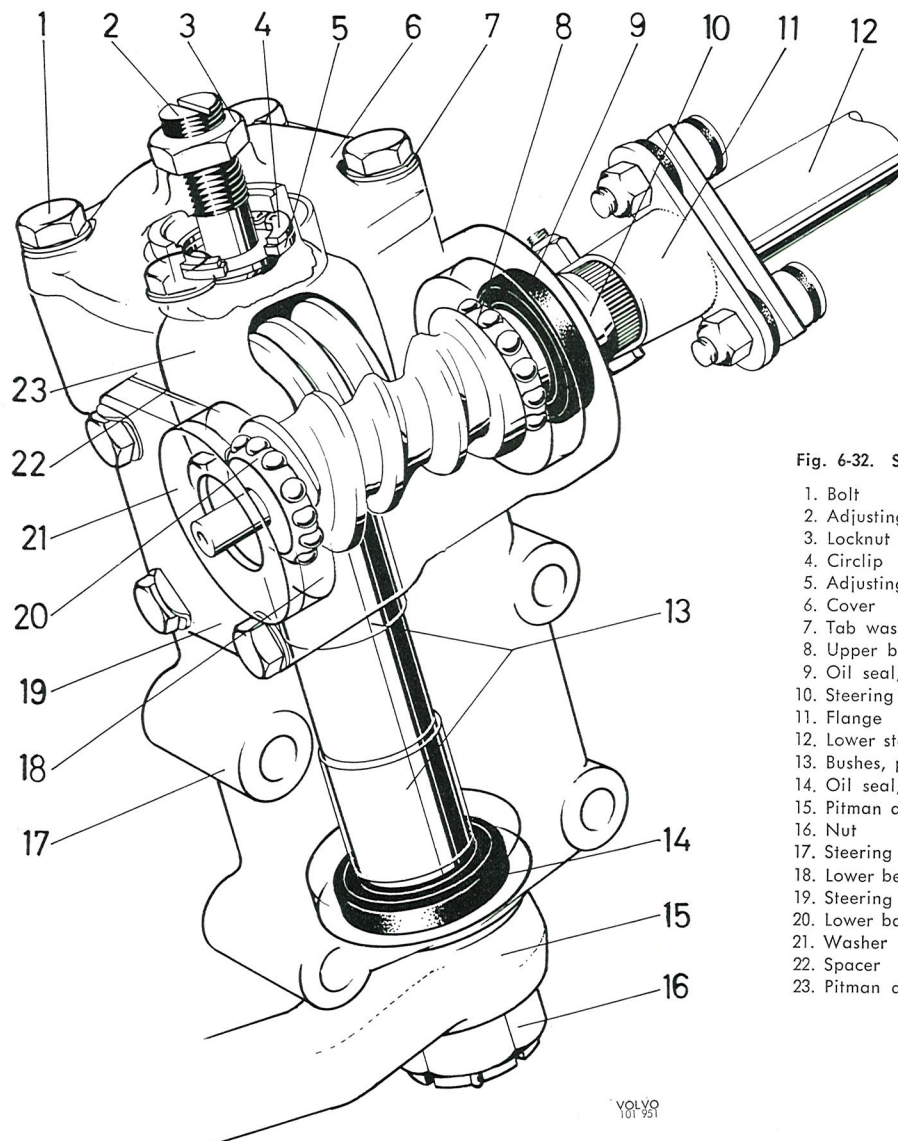

Fig. 6-32. Steering box
2. Remove the cover (19, Fig. 6-32). Take care of the shims (22).
3. Drive out the lower bearing race and bearing (18 and 20) by carefully knocking the steering cam (10) downwards with a plastic hammer. Remove the steering cam and bearing.